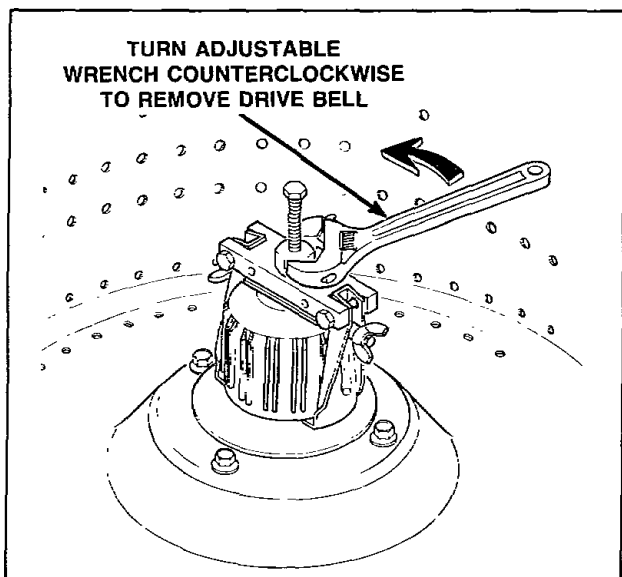

Figure 15
- i. Use an adjustable wrench and turn the large nut on the tool **COUNTERCLOCKWISE** to pull the drive bell from the transmission shaft, *Figure 15*.